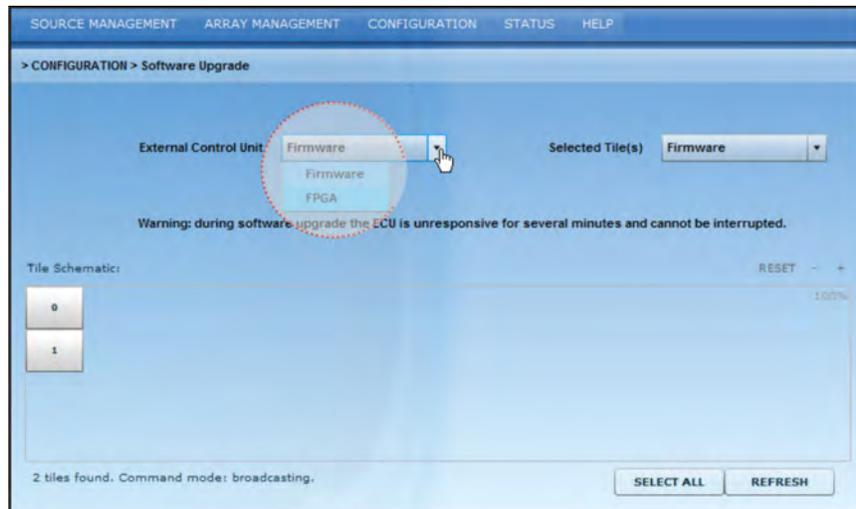

Figure 3-33 Upgrading External Control Unit
4. If upgrading the ECU, select **Firmware** from the **External Control Unit** drop-down menu (**Figure 3-33**).